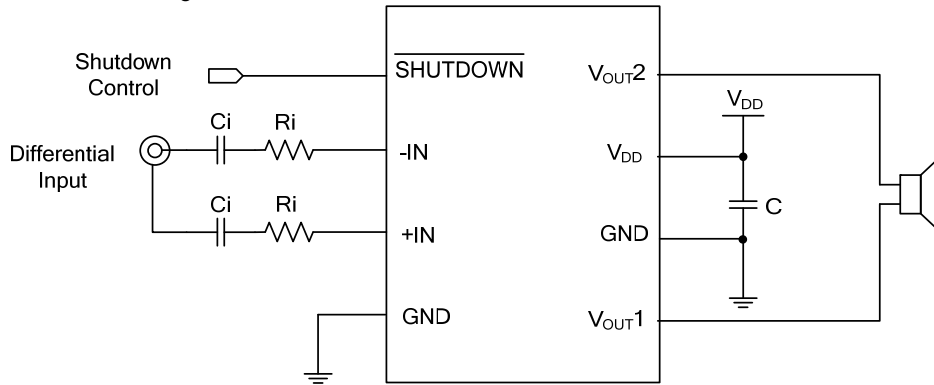

Fig. 4 Differential Input Configuration with capacitors
We recommend an external resistor R_i of the error within 1%, and the resistance should be close to **M4670** input pins to keep two symmetrical inputs, which will help improve the **M4670** noise suppression due to the good CMRR of the **M4670**. Noise coupled onto input traces which are physically close to each other will be common mode and easily rejected by the **M4670**. Input capacitors may be needed for some applications or when the source is single-ended (Fig. 4, 6). Input capacitors are needed to block any DC voltage at the source so that the DC voltage seen between the input terminals of the **M4670** is 0V. Input capacitors create a high-pass filter with the input resistors, R_i . The -3dB point of the high-pass filter is found using Equation (3) below.
Input capacitors can be used in a differential configuration as shown in Fig. 4. Equation (3) above is used to determine the value of the C_i capacitors for a desired frequency, Equation (2) above is used to determine the value of the R_i resistors for a desired gain.